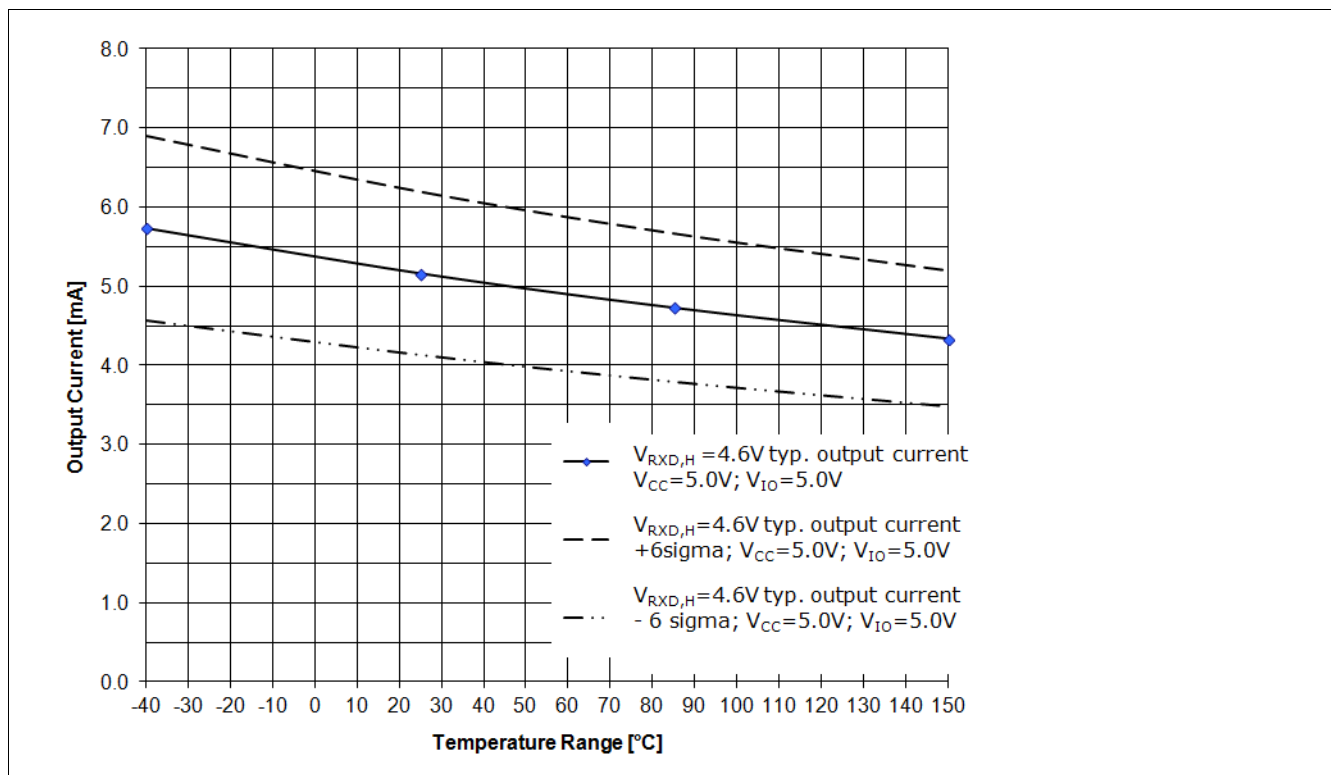

Figure 11 RxD Output driver capability for a logical “High” signal  $V_{RxD,H} = 4.6\text{ V}$ ,  $V_{CC} = 5.0\text{ V}$ ,  $V_{IO} = 5.0\text{ V}$ 1)
The diagram in Figure 11 shows the output current capability of the RxD output pin depended on the chip temperature  $T_J$  at a  $V_{IO}$  power supply of 5.0 V. Figure 12 shows the output current capability of the RxD output pin at a  $V_{IO}$  power supply of 3.3 V.
- The curve “VRxD,H = 4.6 V; typ. output current; VCC = 5.0 V; VIO = 5.0 V;” displays the typical output current at the RxD output pin of the TLE8250GVIO (see Figure 11).
- The curve “VRxD,H = 4.6 V; typ. output current + 6 sigma; VCC = 5.0 V; VIO = 5.0 V;” displays the expected maximum value of the output current at the RxD output pin (see Figure 11).
- The curve “VRxD,H = 4.6 V; typ. output current - 6 sigma; VCC = 5.0 V; VIO = 5.0 V;” displays the expected minimum value of the output current at the RxD output pin (see Figure 11).